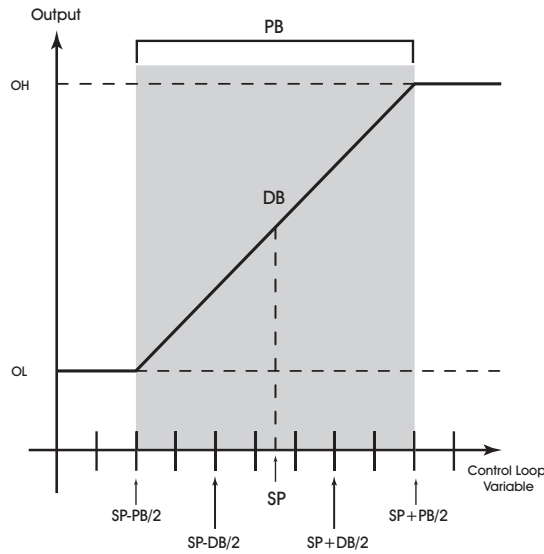
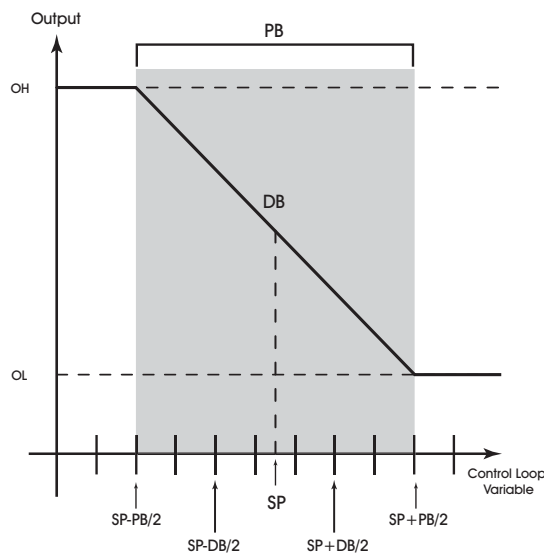

Figure 7-1: Proportional Band for Normal Acting Control ( $SG = 0$ )
Figure 7-2: Proportional Band for Reverse Acting Control ( $SG = 1$ )
To determine **(PB) Proportional Control Band**, first decide how closely the GPC must control to the setpoint. For instance, if the setpoint is 72°F, then an acceptable control range might be within two degrees of the setpoint. This control range can be expressed as a band centered on the setpoint: from 70° to 74°, or 4 degrees *proportional band*. Refer to Figure 7-1 and Figure 7-2.
For normal acting control loops (see Figure 7-1), the **(PO) Percent Output** attribute is set to maximum output when the input variable equals the setpoint plus half of the proportional band ( $CS + PB/2$ ). The percent output is set to minimum output when the input variable equals the setpoint minus half of the proportional band ( $(CS) \text{ Calculated Control Setpoint} - (PB) \text{ Proportional Control Band} / 2$ ). These associations are reversed for reverse acting control loops. **PO** will be midway between minimum and maximum output when the measured variable is equal to the control setpoint **(CS) Calculated Control Setpoint**. The opposite would be true for reverse acting control loop as shown in Figure 7-2.
To determine **(PB) Proportional Control Band**, first decide how closely the GPC must control to the setpoint. For instance, if the setpoint is 72°F, then an acceptable control range might be within two degrees of the setpoint. This control range can be expressed as a band centered on the setpoint: from 70° to 74°, or 4 degrees—the *proportional band*. Refer to Figure 7-1 and Figure 7-2.
For normal acting control loops (see Figure 7-1), the **(PO) Percent Output** attribute is set to maximum output when the input variable equals the setpoint plus half of the proportional band (**(CS) Calculated Control Setpoint + (PB) Proportional Control Band/2**). The percent output is set to minimum output when the input variable equals the setpoint minus half of the proportional band (**(CS) Calculated Control Setpoint - (PB) Proportional Control Band/2**). These associations are reversed for reverse acting control loops. **(PO) Percent Output** will be midway between minimum and maximum output when the measured variable is equal to the control setpoint **(CS) Calculated Control Setpoint**. The opposite would be true for reverse acting control loop as shown in Figure 7-2.